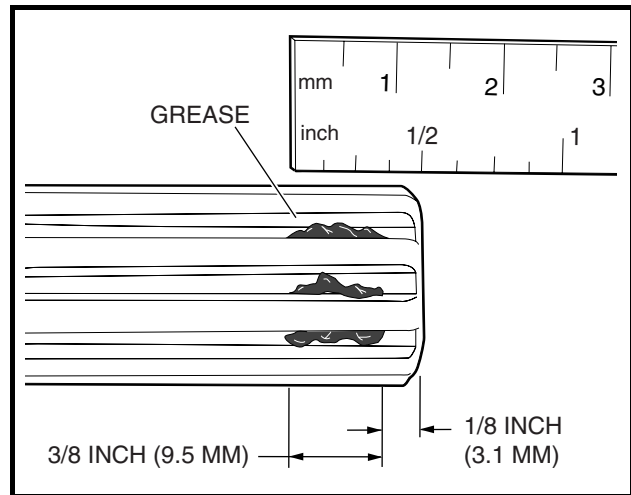

Figure 27-21 Application of grease to Input Shaft Grooves
- 2.3. Apply motor coupling grease evenly to the rotating input shaft starting at approximately 1/8 inch (3.1 mm) from the end of the shaft and working back toward the transaxle (away from the end of the shaft) (**Figure 27-21, Page 27-13**).